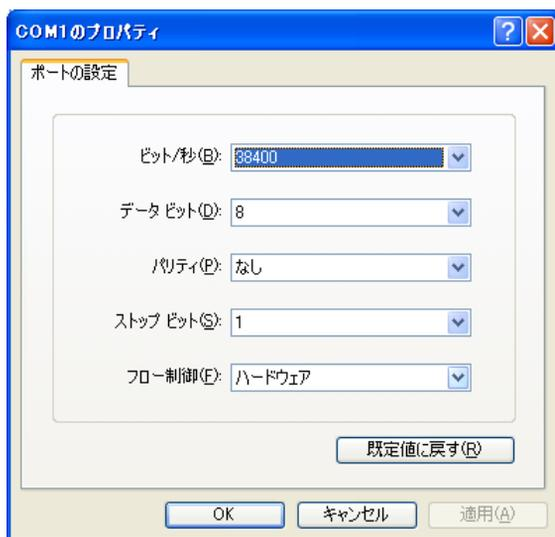

Fig 19 : Property of Port
Port setting is activated from property window of port [Fig 19] by selecting a connected serial port from view on port tab of printer property, a click on [port configuration (C)] button.